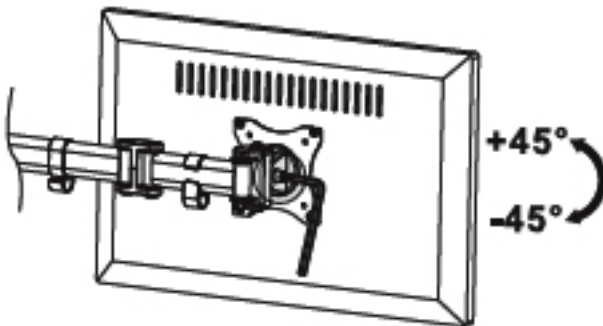
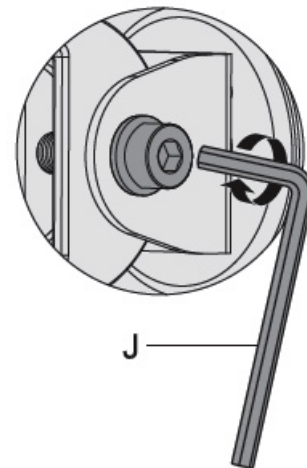

Figure 10a
Figure 10b
2. Adjust the monitor tilt angle. If the monitor does not stay at the desired position, use the 6mm Allen Key (J) to tighten the Vesa Plate bolt, see **Figure 10a** and **Figure 10b**.